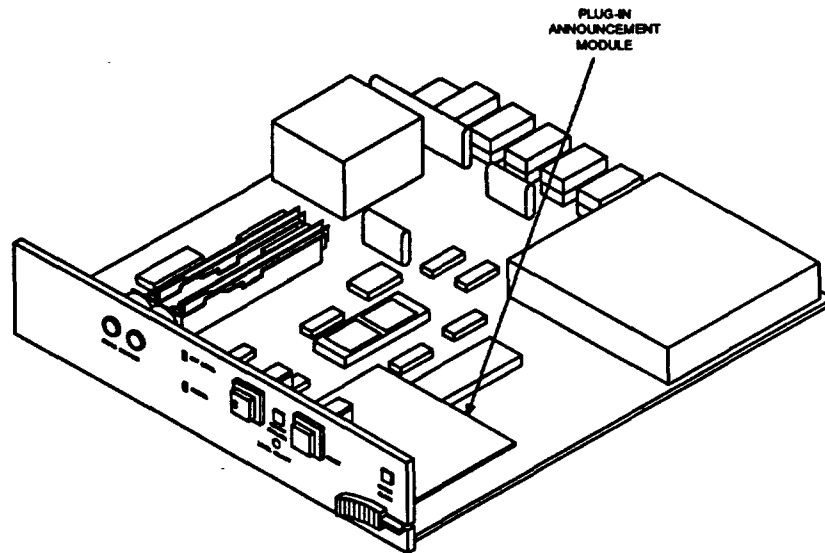

Figure 1. 14A Announcement System ALD1 Circuit Pack
- Code ALD1 (Figure 1) — A playback-only unit that uses a prerecorded Erasable Programmable Read-Only Memory (EPROM) announcement module.